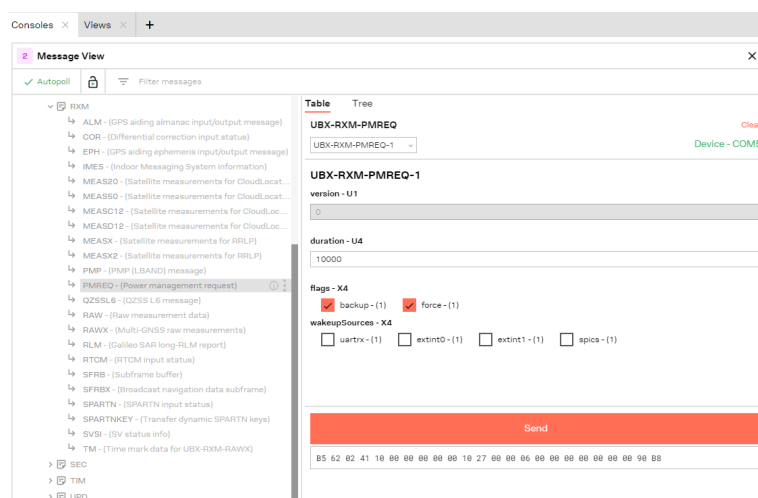

Figure 17: EVK-F101 receiver software standby mode configuration
- **Software standby mode:** To turn on the software standby mode, provide the time duration as milliseconds in the duration field and select the UBX-RXM-PMREQ message backup flag, as shown in Figure 17. The receiver wakes up after the provided duration or by selecting the supported wakeup sources in the message field. The available wakeup sources are EXTINT and UART Rx/D signals.